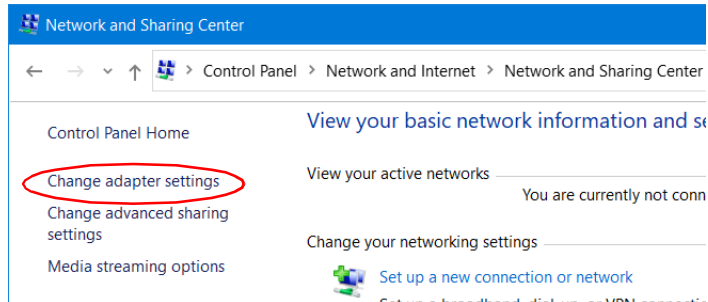

Figure B-2 Network and Sharing Center Window
STEP 3: In the left sidebar of the *Network and Sharing Center* window, click **Change adapter settings** (Figure B-2). The Ethernet port on your PC should not have a cable attached at this time.